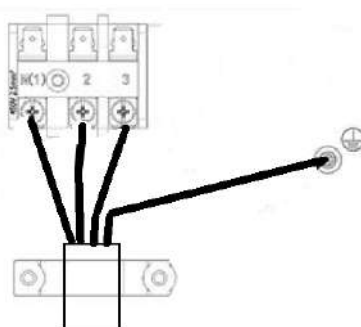

Fig 5.1.5
- ① Tighten the power cord respectively on the terminal boards with screws. Faulty connection may cause a fire.
- ② If the power supply are wired incorrectly, the air conditioner may be damaged.
- ③ Connect the indoor unit connection cord properly based on the corresponding marks as shown in fig 5.1.5.
- ④ Ground both the indoor and outdoor units by attaching a ground wire.
- ⑤ Unit shall be grounded in compliance with the applicable local and national codes.